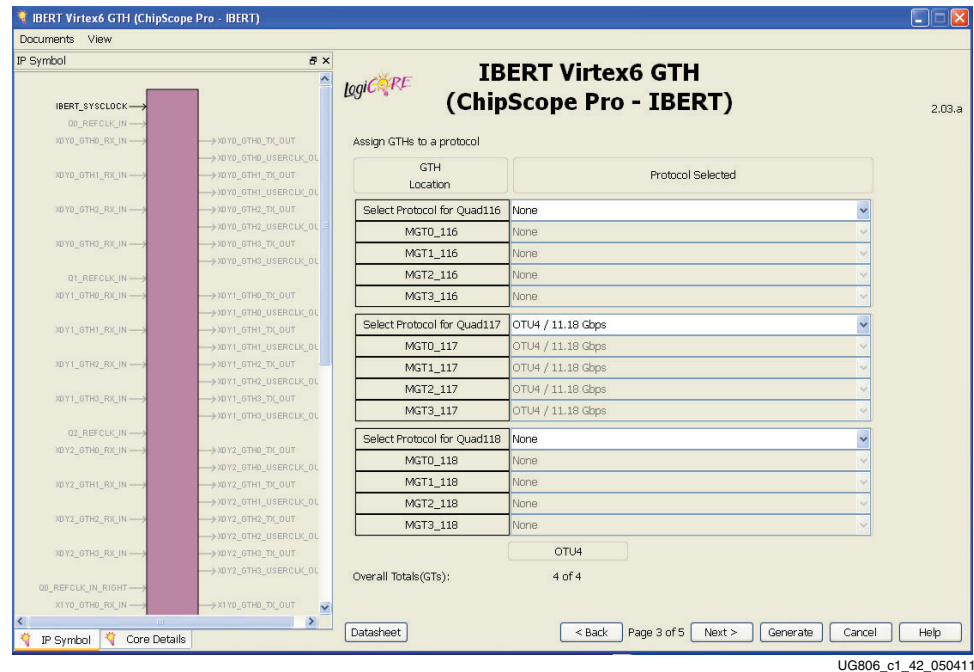

Figure 1-42: CORE Generator - IBERT GTH Customization - Page 3
11. Enter the information shown here and in Figure 1-42, then click **Next**: